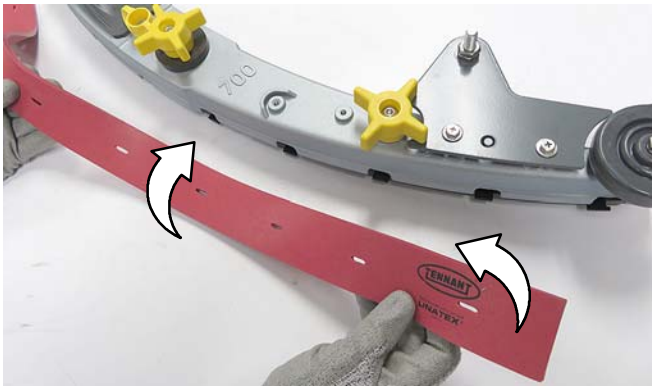

FIG. 139
- Rotate the rear blade to a new wiping edge and reinstall blade (Figure 139). Make sure to align the slots in the blade with retainer tabs.